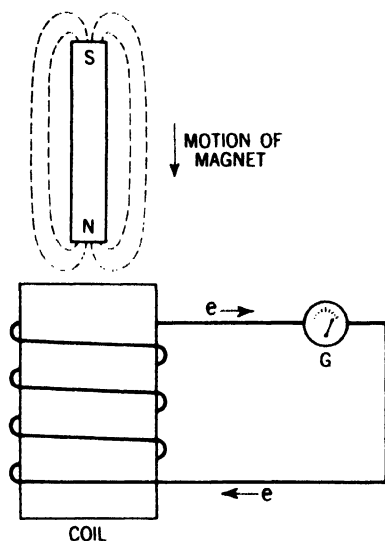

Fig. 31-1. The magnet is plunged into the coil of wire. An electric current is induced in the coil.
Connect the ends of the galvanometer to a coil of about 50 turns of wire wound in the shape of a cylinder about two inches in diameter. Now plunge the north end of a permanent magnet into the center of the coil (Fig. 31-1). Observe that the pointer is deflected to the right, showing that an electric current was set flowing for a moment in the coil and galvanometer.
**Lenz's Law.** There is another important principle in connection with induced currents. Turn back to Figure 31-1. As the north pole of the magnet enters the coil, a current will be induced in this coil. You know already that when a current flows through a conductor, it sets up a magnetic field around this conductor. Thus, the coil becomes an electromagnet. The induced current in this coil is
But in the case of induced electromotive force generated as shown in Figures 31-1 and 31-2, the current starts from zero (magnet outside the coil and at rest) and builds up in one direction (as the magnet enters the coil). The electromotive force dies down to zero again (magnet at rest inside the coil), then builds up in the opposite direction (as the magnet is being removed from the coil), and dies down to zero again (magnet at rest outside the coil).